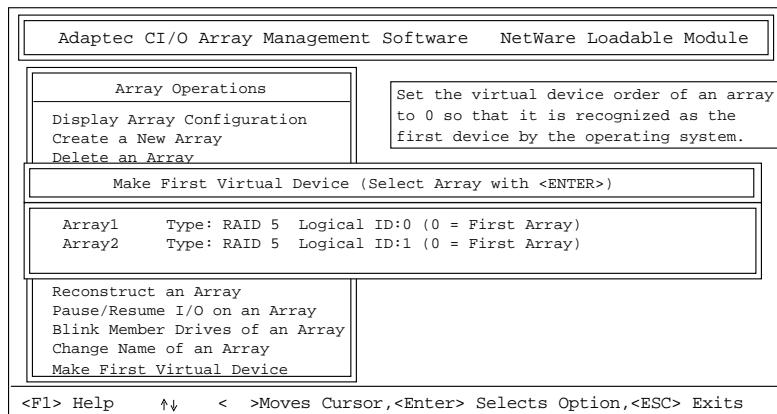

Figure 3-4. Make First Virtual Device Window
- 2 Select **Make First Virtual Device** from the Array Operations menu. The Make First Virtual Device window appears, similar to Figure 3-4.